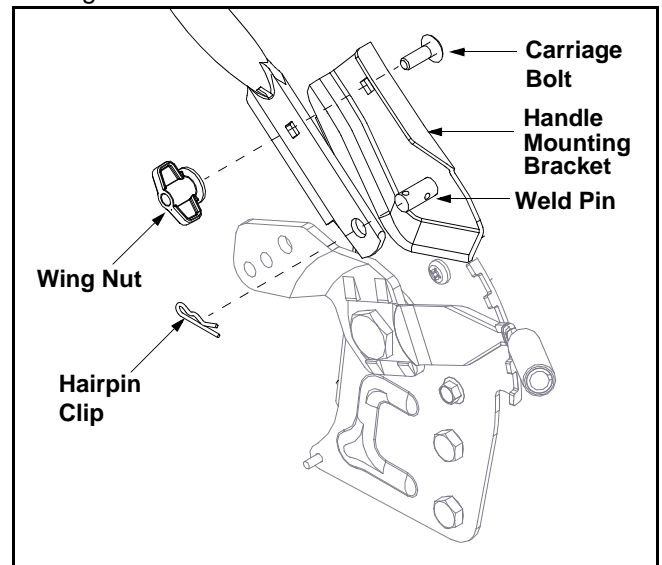

Figure 4
7. Remove the hairpin clip from the outer hole of the weld pin on the lower handle. See Figure 4.
8. Using a pair of pliers, insert this clip into the inner hole on the weld pin. Repeat on other side. See Figure 4.
9. Insert carriage bolt from the hardware pack into the upper hole on the handle mounting bracket. See Figure 4 for direction of the carriage bolt.